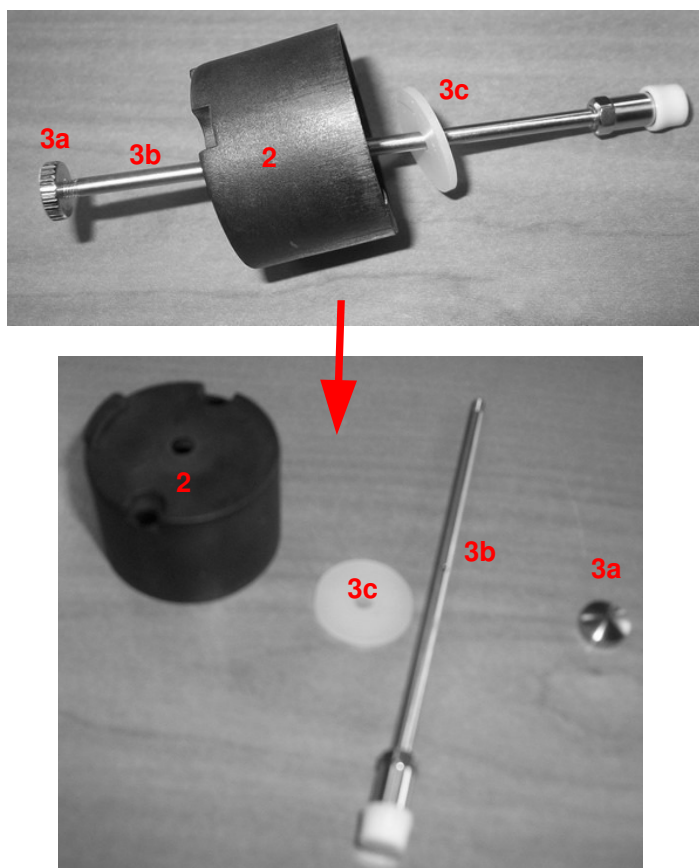

Figure 118: Syringe plunger replacing
11. Only if necessary, also replace the syringe plunger (it is substituted with a lower frequency than the syringe barrel). Remove the plunger (number 3a, 3b and 3c in **Figure 118**) from the upper cover (number 2 in **Figure 118**). To separate the plunger from the upper cover unscrew the nut indicated with the number 3a. All the components can be disassembled. After replacing the plunger, re-assemble the plunger and the upper cover.
11. Proceed with the replacing of the 2.5ml syringe plunger with the 5ml syringe plunger. Remove the plunger (number 3a, 3b and 3c in **Figure 118**) from the upper cover (number 2 in **Figure 118**). To separate the plunger from the upper cover unscrew the nut indicated with the number 3a. All the components can be disassembled. After the plunger is replaced, re-assemble the plunger and the upper cover,
24. Proceed with the replacing of the 2.5ml syringe plunger with the 1ml syringe plunger. Remove the plunger (number 3a, 3b and 3c in **Figure 118**) from the upper cover (number 2 in **Figure 118**). To separate the plunger from the upper cover unscrew the nut indicated with the number 3a. All the components can be disassembled. After the plunger is replaced, re-assemble the plunger and the upper cover,